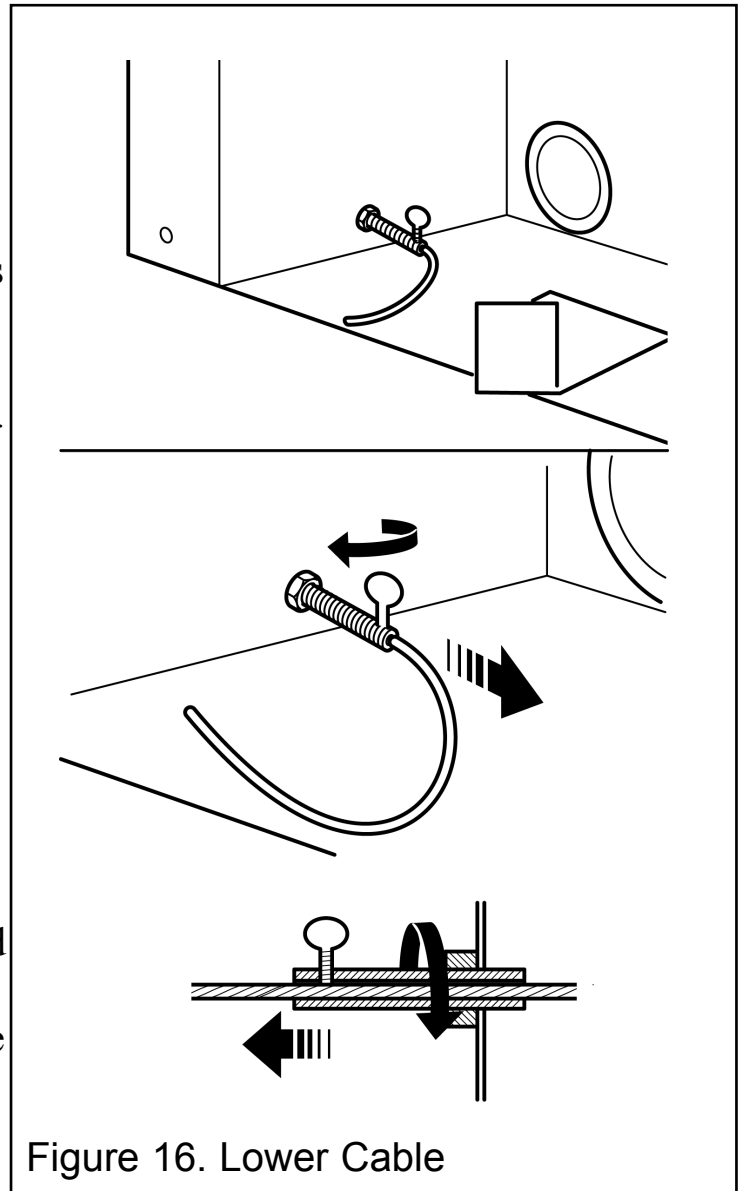

Figure 16. Lower Cable
9. Pull each cable taut. Push the cable retainers hard up against the back panel. The end of the cable adjuster will pass into the hole. Tighten the screws in the retainers so that they clamp the cables in position. Apply tension to the cables by turning the hexagonal adjusters by hand. See figure 16.